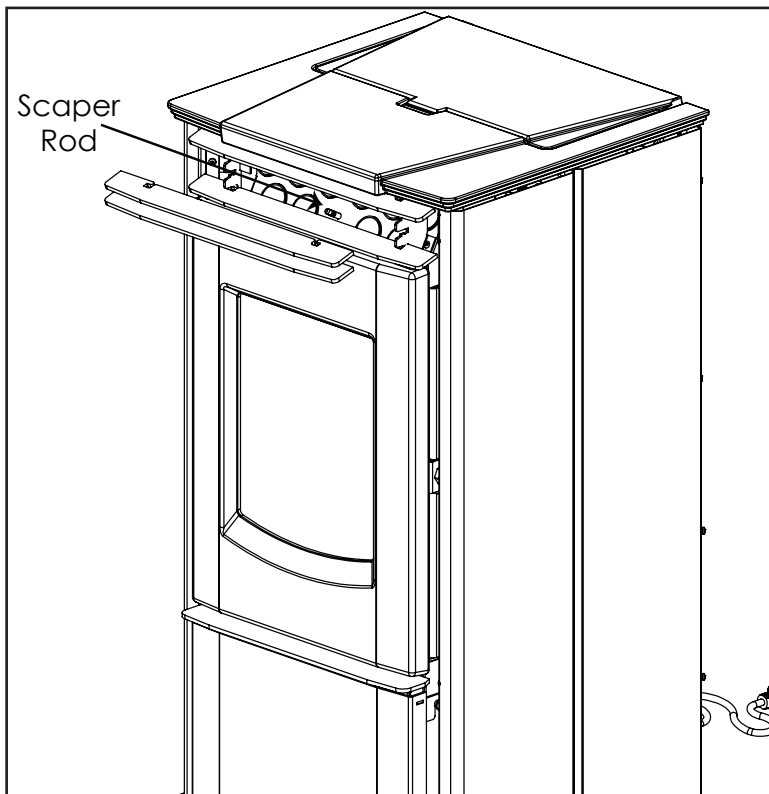

Figure 35: P3 Heat Exchanger Tubes
A rod is located in the center of the stove just above the door behind the top louvers, see Figure 35. This rod is to be pulled up and down a few times (ONLY WHEN THE UNIT IS COLD) in order to clean away any fly ash that may have collected on the heat exchanger tubes. As different types of pellets produce different amounts of ash, cleaning of the tubes should be done on a regular basis to enable the unit to run efficiently. Do not pull on rod excessively if it is not sliding. If stuck inspect rod for bend and try and free up scraper plate from inside firebox.
- Pull out the Scraper Rod shown in Figure 35 in order to remove any fly ash that may have collected on the heat exchanger tubes. This will allow for optimal heat transfer to convection air.